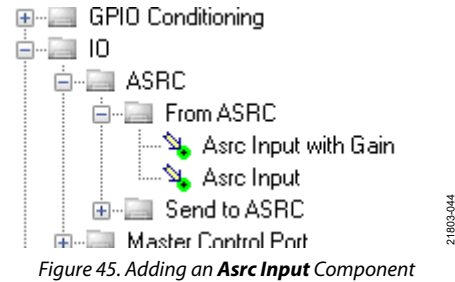
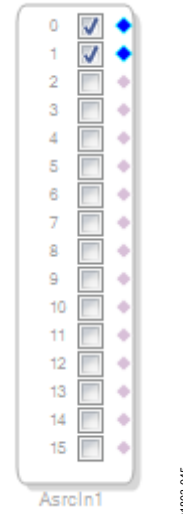

Figure 45. Adding an Asrc Input Component
Figure 46. Asrcin1 Block in Project Space
- Add an **Asrcin1** block (the S/PDIF input) to the project by clicking the **Asrc Input** component from the **IO > ASRC > From ASRC** folder (see Figure 45), and dragging it to the project space where it appears as shown in Figure 46.
By default, Channel 0 and Channel 1 are active when the corresponding checkboxes are selected. Because the **ASRC 0** outputs correspond to Channel 0 and Channel 1, use the default configuration shown in Figure 46. For reference, Table 1 provides a mapping of the ASRC outputs to the corresponding channels on the **Asrcin1** block in the DSP schematic.